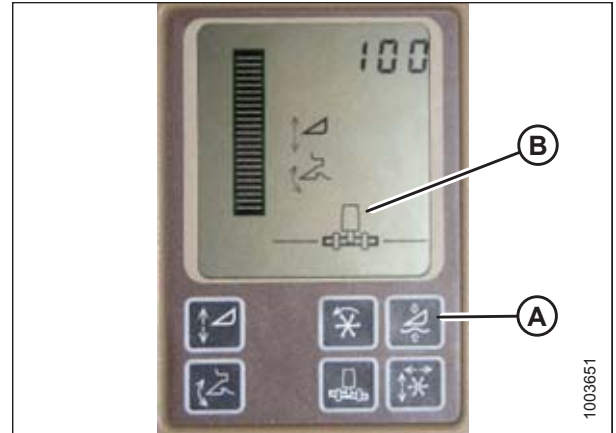

Figure 3.321: John Deere Combine Display
Do **NOT** use the active header float function (A) in combination with the MacDon auto header height control (AHHC)—the two systems will counteract one another. The header symbol (B) on the display should **NOT** have a wavy line under it and should appear exactly as shown on the Active Header Control Display in Figure 3.321, page 211.